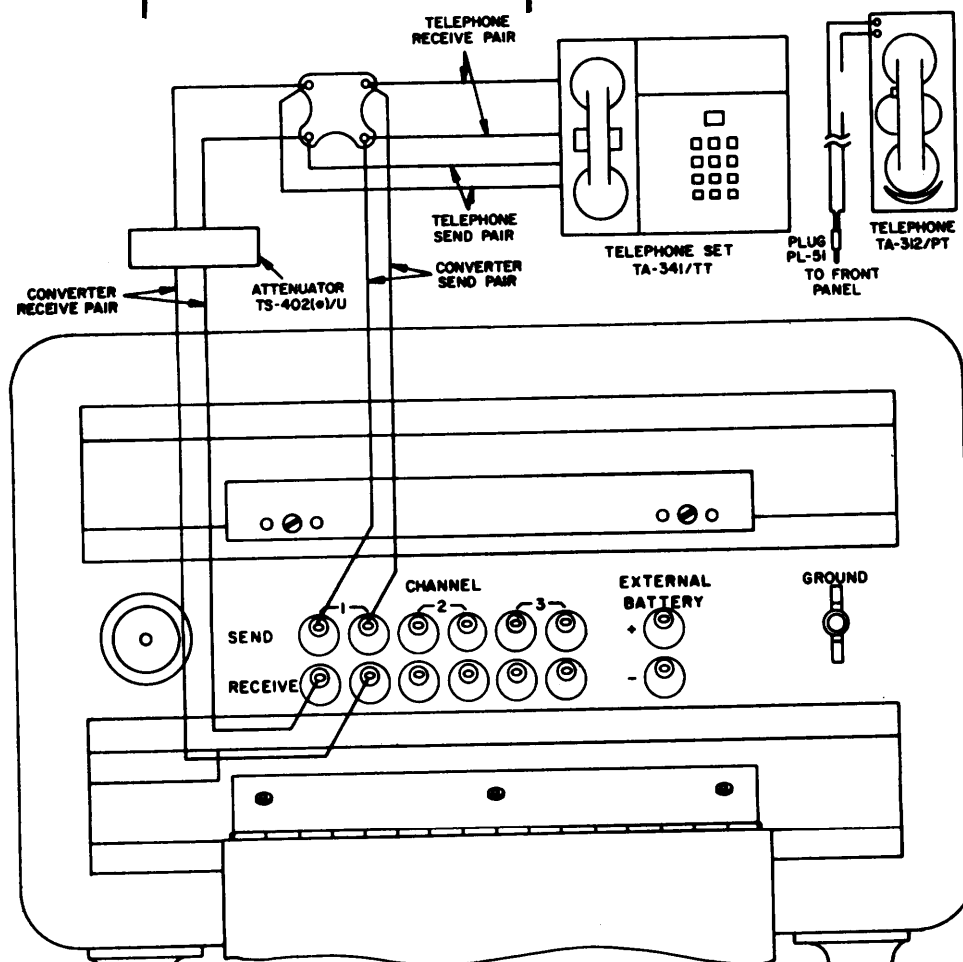

Figure 2-10. Operational performance test.
- (1) Telephone TA-312/PT with Plug PL-51.
- (2) Telephone Set TA-341(*)/TT.
- (3) Attenuator TS-402(*)/U.
b. Test Connections (fig. 2-10).
(1) Connect TA-341(*)/TT send pair through TS-402(*)/U to CV-1919A/G CHANNEL 1 RECEIVE pair.
(2) Connect TA-341(*)/TT receive pair to CV-1919A/G CHANNEL 1 SEND pair.